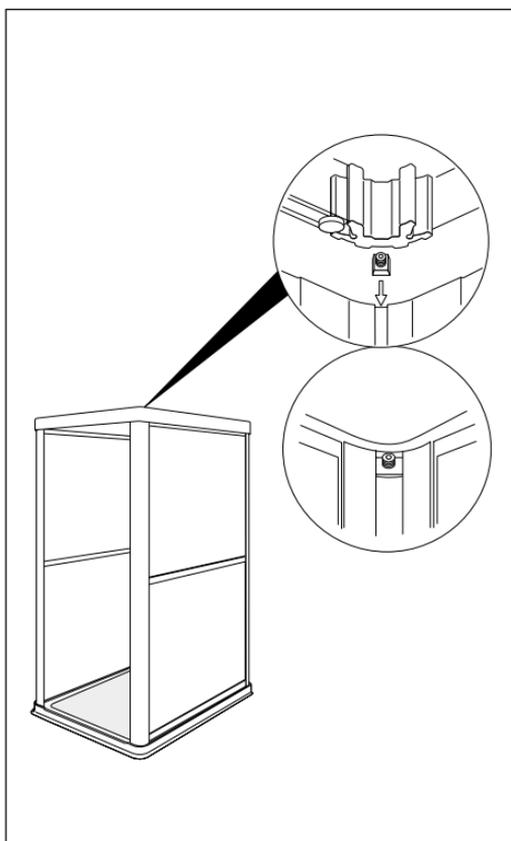

Fig 4.8
9. Fig 4.8. Prior to fitting the roof panel ensure that the cubicle is square and upright.